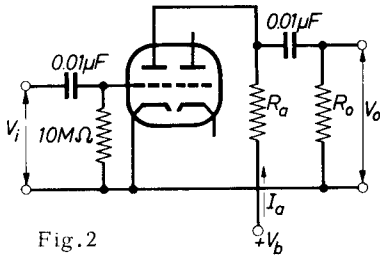

Fig. 2
A.F. amplifier Fig.2 see page 9 Input source resistance = 100 Ω